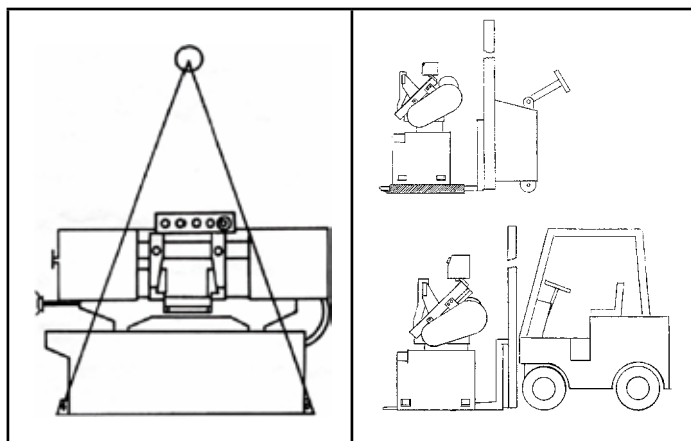

Figure 1. Moving Bandsaw: Straps (Left) or Forklift (Right)
- If moving with a lifting strap, remove all bolts attaching machine to shipping base. Leave packing material between vise clamps and saw head in place until bandsaw has been lifted to its final position. See Figure 1 (left) for strap placement.
- Using lifting straps that are isolated from the bandsaw's finished surfaces. If moving with a forklift, orient the bandsaw on forklift as, shown in Figure 1 (right). Keep the bandsaw balanced when moving it. Consider the center of gravity. Drive forklift slowly and carefully.